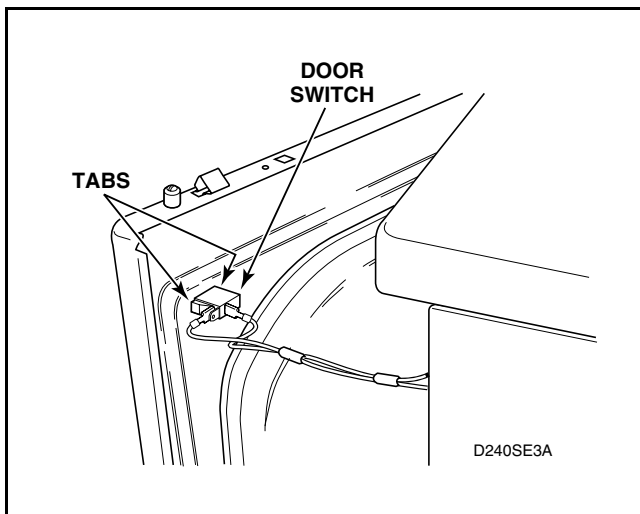

Figure 11
- d. Disconnect wires from door switch. Refer to *Figure 11*.
- e. Depress tabs on switch and push out of front panel. Refer to *Figure 11*.